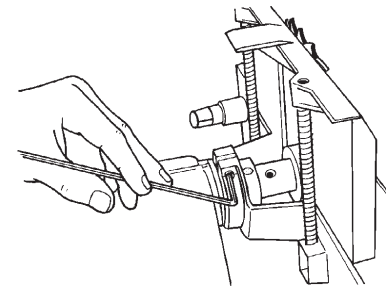

Figure C-65
- 81. Use the 5/32" Allen wrench to tighten the socket head screw on the saw guard collar, as seen in Figure C-65.